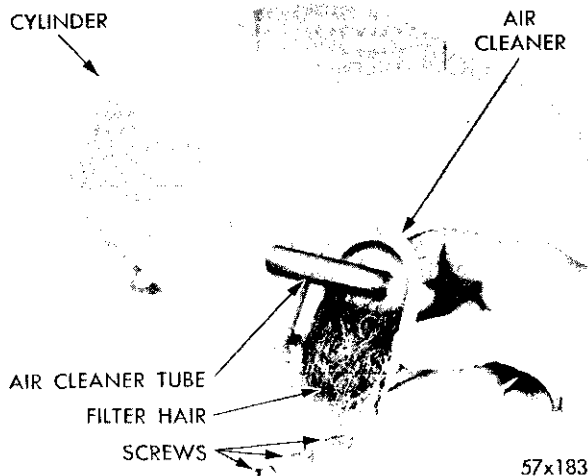

Fig. 48—Removing the Air Cleaner and Filter
(2) Remove the air cleaner attaching screws, disengage air cleaner and filter from the cylinder, as shown in Figure 48.